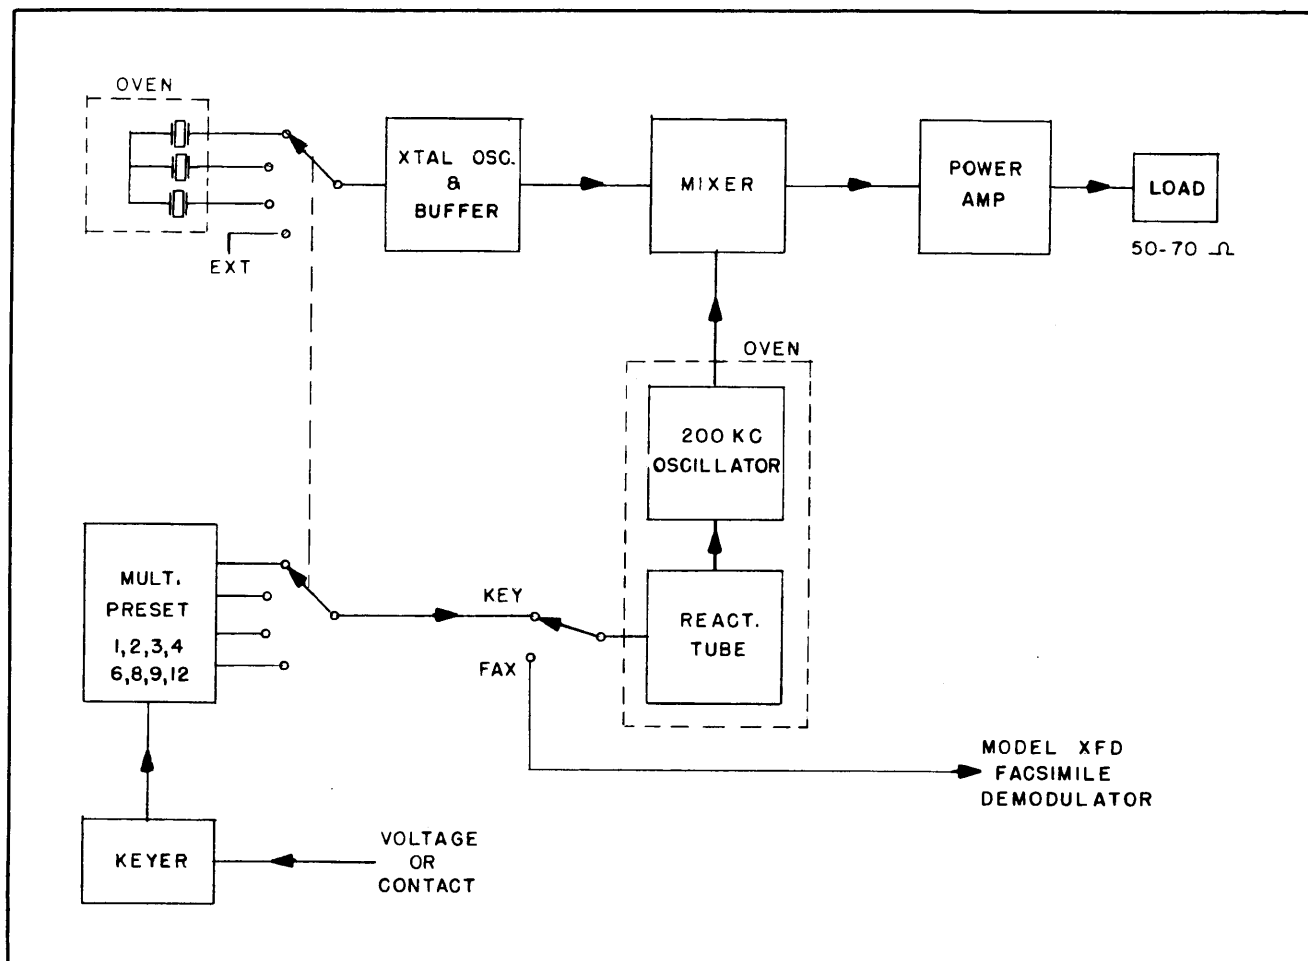

Figure 2-1 Block Diagram
A. Figure 2-1 illustrates a block diagram of the Exciter showing the routing of a signal from input to output. Constant reference will be made during the following discussion to tubes and points designated in Figure 2-1. Readers' reference to this figure should be made when necessary without further direction.